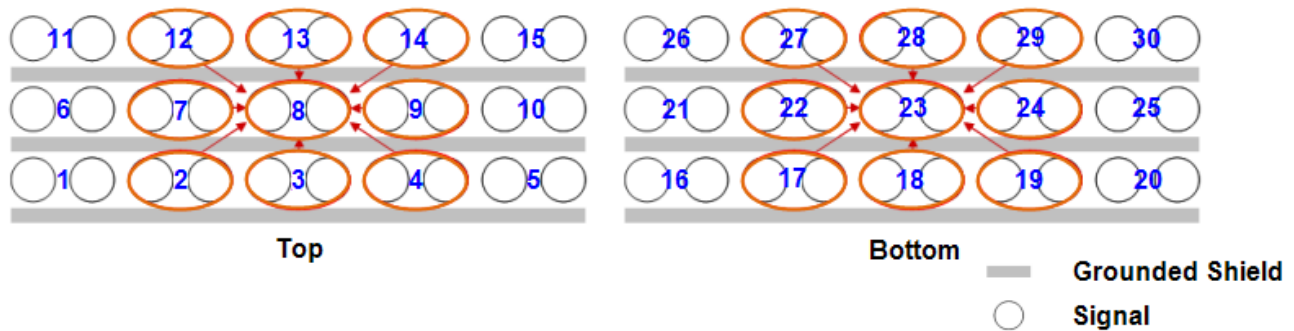
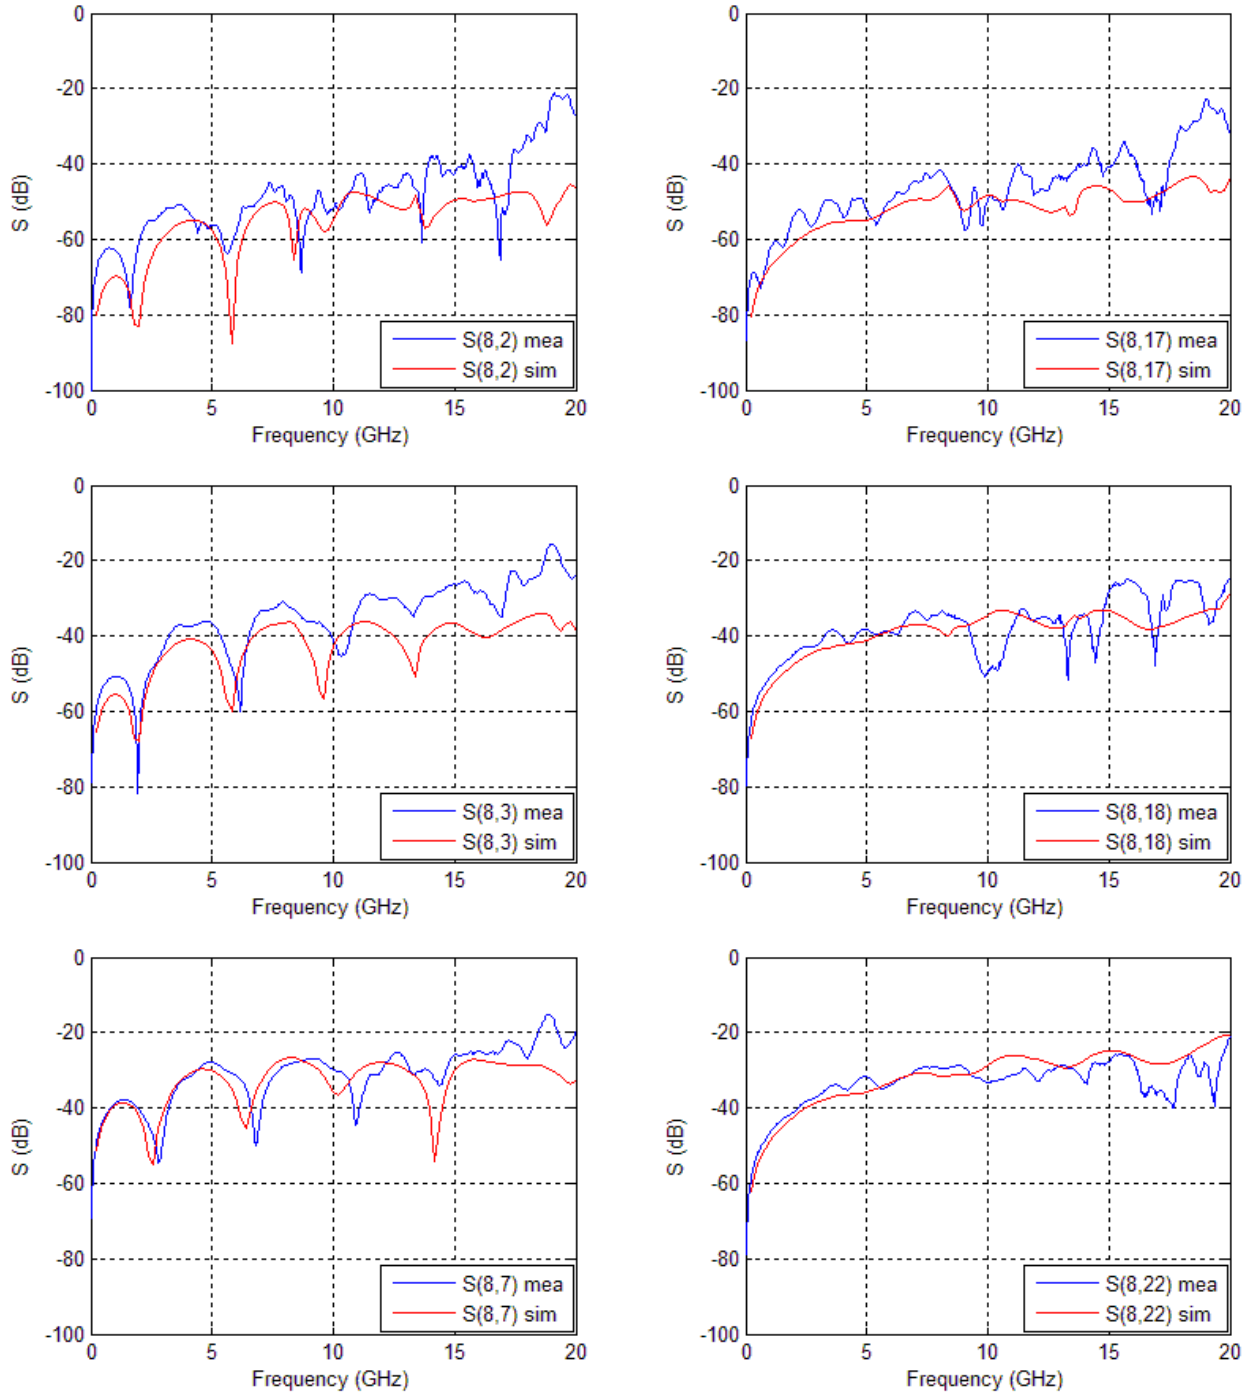

Figure 100 Differential NEXT and FEXT for center pair 8 were measured for 8 surrounding neighbors
Figure 102 Measurement vs. simulation correlation of differential S parameters between two nearest neighbors (for IT3-25mm) as shown in Figure 100
Figure 101 and Figure 102 show the measurement vs. simulation correlation of insertion loss (IL), return loss (RL) and differential S parameters (SDD) between two nearest neighboring pairs for the center differential pair 8 (as shown in Figure 100). Good correlation was observed for all IL, RL, near-end cross-talk (NEXT), and far-end cross-talk (FEXT).
Differential NEXT and FEXT were measured for 8 surrounding neighbors of the center differential pair (see Figure 100) and converted into time-domain data. Figure 108 and Figure 109 show the maximum differential NEXT and FEXT (in %) from each neighbor with step input at 60ps (20% to 80%) rise time with 5.25 GHz bandwidth. The center box corresponds to the absolute sum of NEXT and FEXT from all 8 surrounding pairs.